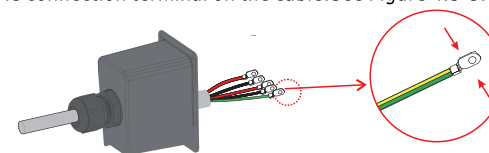

Figure 4.3-5 Install ac connection terminals
Step 3. Install the AC connection terminal on the cable. See Figure 4.3-5.